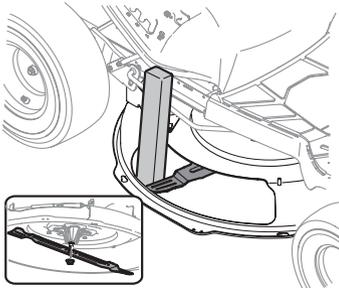

Figure 21
2. Using a block of wood or 2 x 4, insert it into the deck opening and rotate the blade around until it wedges the wood between the deck opening and the cutting blade (Figure 21).